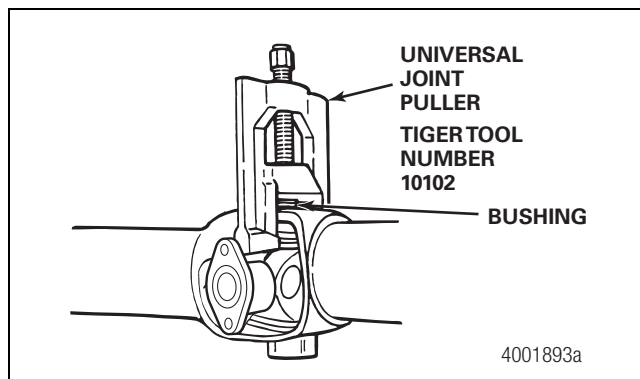

Figure 5.1
3. Remove the first bearing cup. If necessary, use a bearing puller to remove the bearing cup from the yoke bore. Figure 5.1.